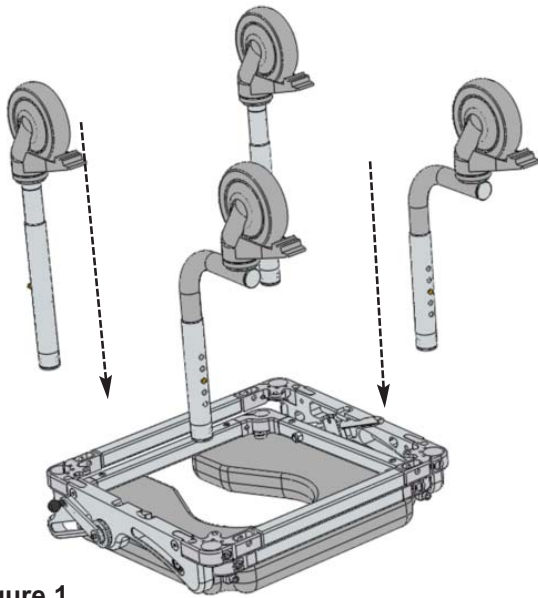

Figure 1
**C** Position the rear bent legs so that they point out at a 90-degree angle. Make sure that the legs slide "home" into the socket of the seat frame. Use the included yellow T-handle Allen wrench to securely tighten the bolts located at the corners of the frame (Refer to Figure 1)